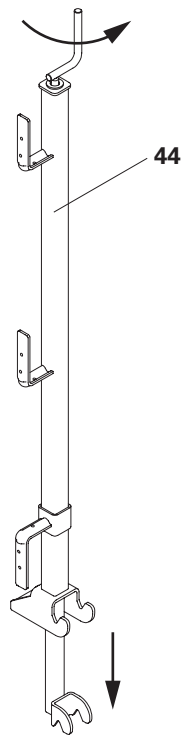

Fig. A2.05
The Guardrail Post GKB (**44**) is clamped in the reinforcement stirrup. (Fig. A2.05 + A2.06)
3. Position guardrail boards (**38**) and secure, e.g. by means of wire pins or wood screws. (Fig. A2.05 + A2.06)